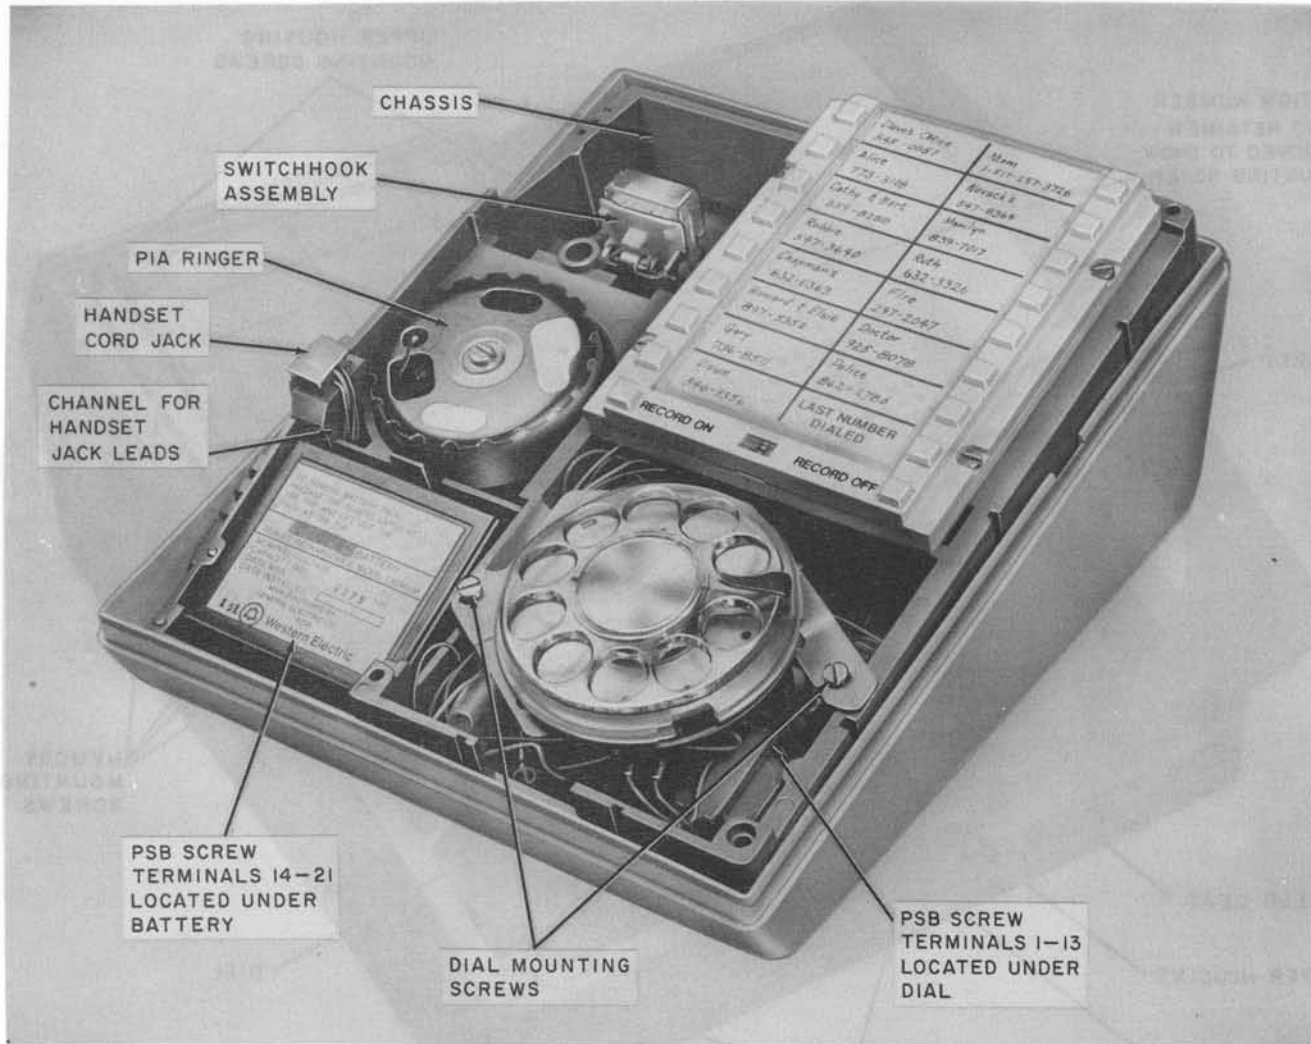

Fig. 5—960A01M Telephone Set With Handset, Faceplate, Shield, and Upper Housing Removed
- **Battery**—snaps into a cavity from the top side in the left front corner of the chassis (Fig. 5).
- **Ringer**—fastened by two screws to bosses on the bottom of the chassis (Fig. 9A) and rests in a cavity just to the rear of the battery cavity (Fig. 5).
- **Handset Jack**—slides into a cavity on the top left side wall of the chassis adjacent to the ringer and battery (Fig. 5).
- **Switchhook Assembly**—soldered to power supply printed wiring board and located at left-rear corner of power supply board (PSB) (Fig. 5).
- **Power Supply Printed Wiring Board Screw Terminal Areas**—(Fig. 5 and 6).
- **Chassis**—main structural member to which other component assemblies are fastened, including the upper and lower housings (Fig. 5 and 9).
- (1) Confirm trouble report either as an automatic dialer (Part 5), or as a basic telephone set.
- (2) Check for improper connections.
- (3) Refer to Table G and paragraphs 6.04 through 6.08.
6.04 The KS-20390L5 battery has an expected life of about 4 years. It can be replaced without loss of memory provided that commercial ac power to the set is continuously maintained. To replace the battery, proceed as follows (Fig. 5).